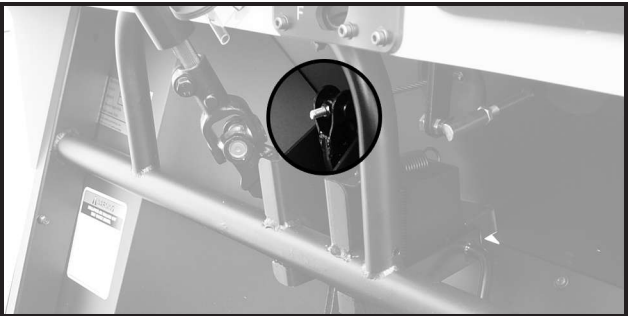

Figure 5b Brake Pedal
- If there is more than 3/4" free play, use a 3/8" socket to tighten the nut on the brake pedal lever arm (Figure 5b).